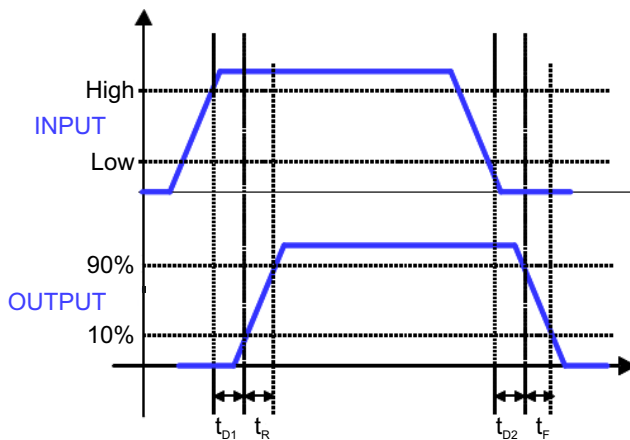

図 6-1. Timing Diagram: (OUTH Tied To OUTL) Input = IN, Output = OUT (EN = VDD) Or Input = EN, Output = OUT (IN = VDD)
(1) Ensured by design and tested during characterization. Not production tested.
(2) See Figure 6-1.